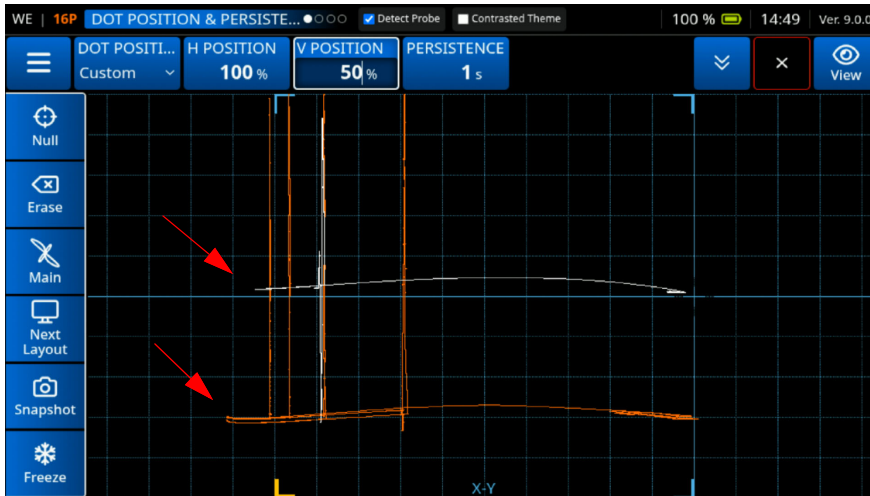

Figure 3-52 Validate the Settings
2. Evaluate your subsequent paint thickness reading using the vertical reference marks. Use the **V Position** setting to more clearly visualize the paint coating for comparison with reference marks (See Figure 3-52 on page 82).